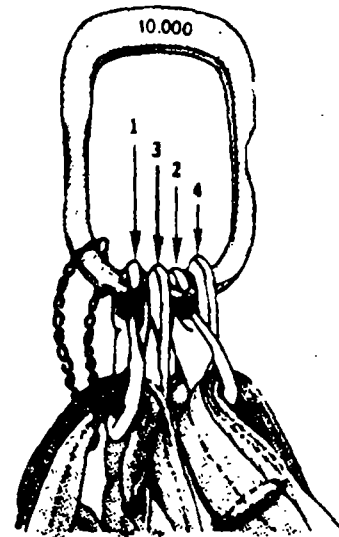
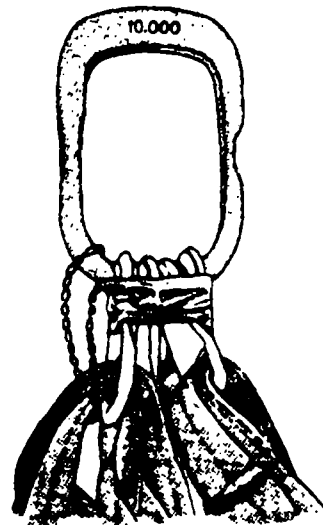

Figure 1-9. Legs Hooked In Sequence
Figure 1-10. Taped Hooks
Step 4 - Position one person on top of the load with the apex fitting. Legs are hooked to the apex in the following sequence: 1, 3, 2, and 4, to provide equal lift on all legs (Figure 1-9). Hooks do not have to face in the same direction. After connecting all four hooks to the apex fitting, tape or tie the four hooks together to prevent them from coming unhooked when the apex is laid down (Figure 1-10).